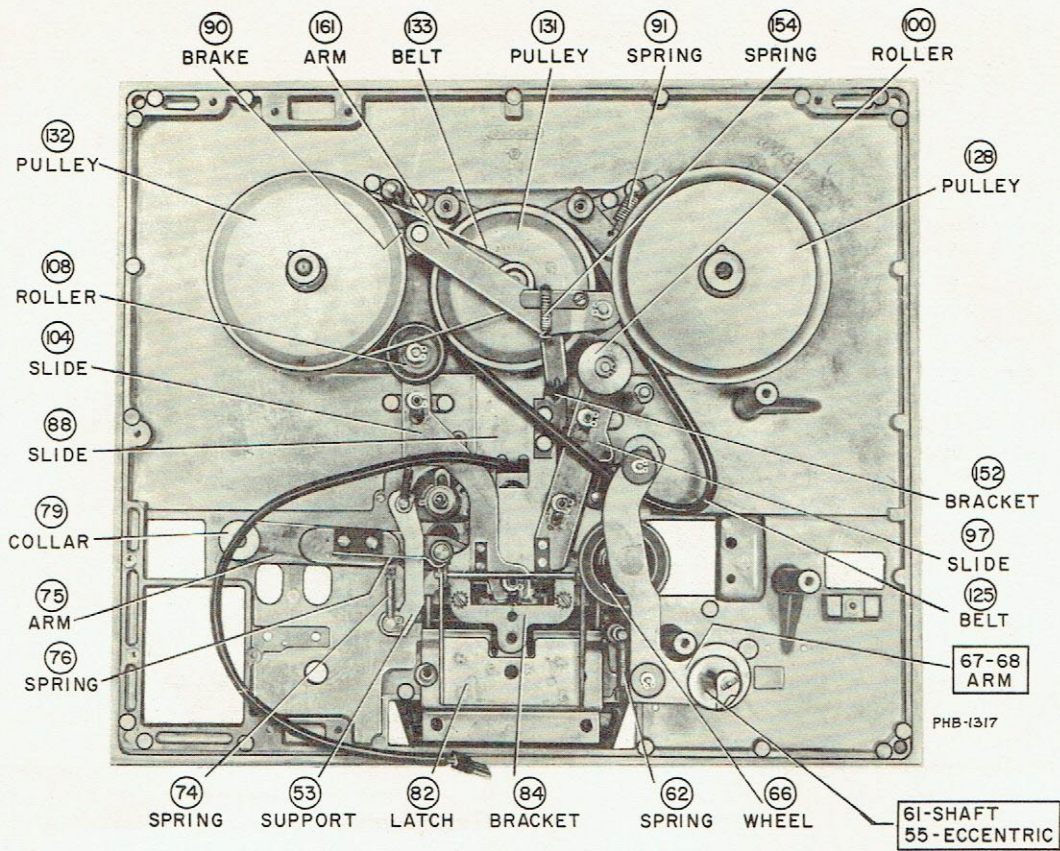

Figure 7—Bottom View of Tape Transport with Motor and Flywheel Removed
Depressing any pushbutton releases the brakes; depressing either "FAST" pushbutton (18 or 19) will directly move brake release slide (88) against the tension of brake arm springs (91). This will move the brakes (89 and 90) away from takeup drive pulley (132) and rewind drive pulley (128). Depressing either PLAY pushbutton (17 or 20) will move pressure roller arm actuating slide (94) which will in turn move brake release slide to the rear. Refer to figure 7.
Depressing the "STOP" bar (81) at any time unlatches any pushbutton which may have been depressed. The unlatching action allows the brake release slide (88) to be pushed forward by the springs attached to the two brake arms (89 and 90) and allows the brake pads to contact both the takeup drive pulley (132) and the rewind drive pulley (128). Refer to figure 7.
Brake equalization is accomplished by bending the ends of the brake arm actuating lever (88). For access to ends of actuating lever, remove drive pulley (131). Refer to figure 7.
Refer to figure 7. The tension of the pressure